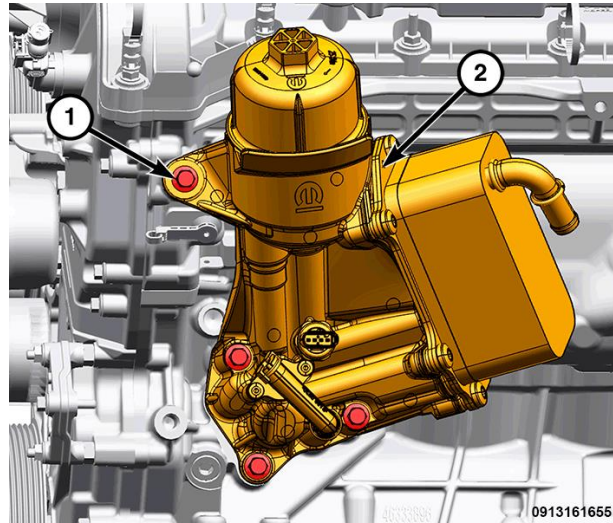

Figure 20 – Oil Cooler Bolts
29. Remove the bolts (1) and the engine oil filter adapter (2). Discard the old adapter (Figure 20).
31. Install the new engine oil filter adapter and tighten the fasteners (Figure 20):